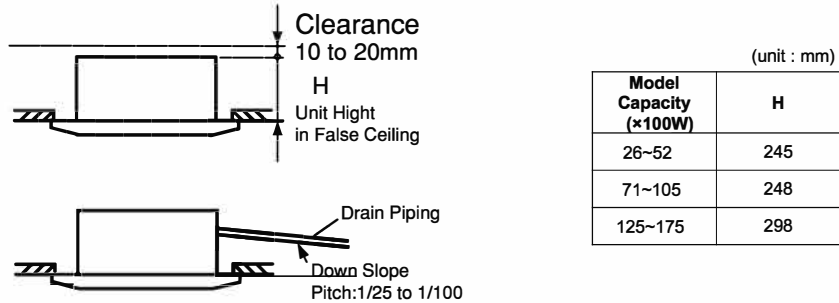

Fig. 3.2 Installation Location of Indoor Unit
- Select the installation location as shown in Fig 3.2: